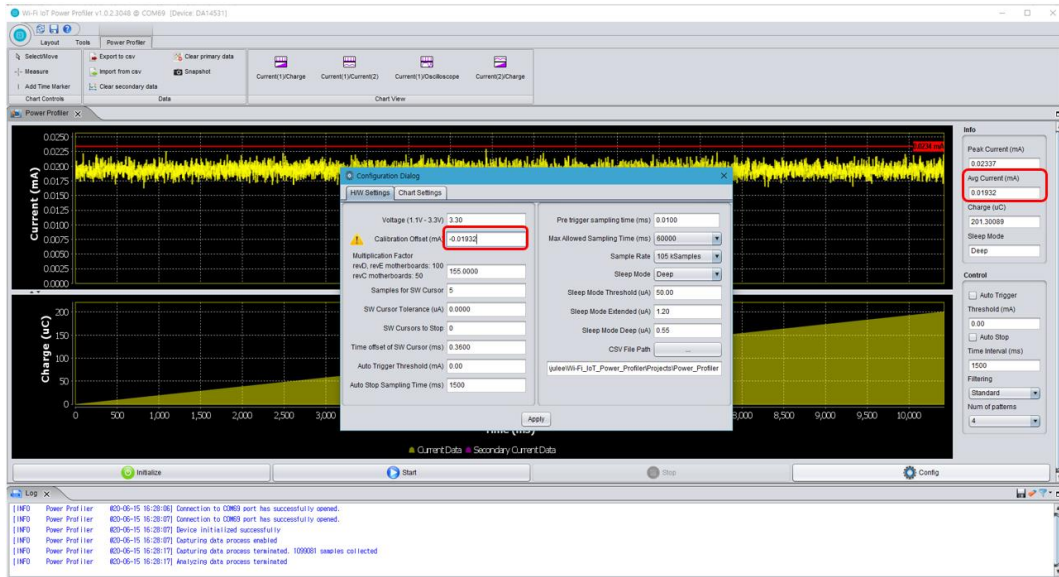

Figure 62. Setting calibration offset
3. Run a free running capture for a few seconds and note down the number in the **Avg Current (mA)** field as shown in Figure 62. Note that the last digits of the number keep changing slowly because of temperature drift. It is important to do the calibration steps periodically.
4. Finally, put this average value with a negative sign in the **Calibration Offset (mA)** field. CTRL-C and CTRL-V are also workable as shown in Figure 62.